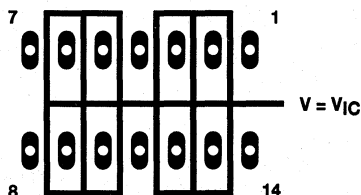
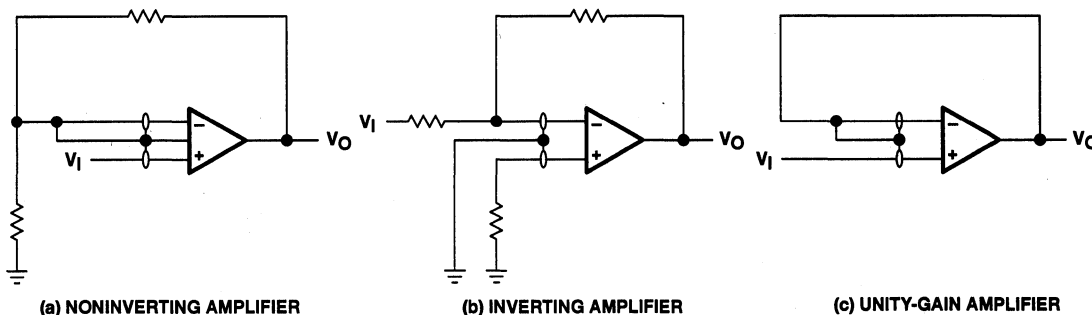

Figure 33. Isolation Metal Around Device Inputs
Figure 37. Guard-Ring Schemes
- Isolate the device from other potential leakage sources. Use a grounded shield around and between the device inputs (see Figure 33). Leakages that would otherwise flow to the inputs are shunted away.
Because of the extremely high input impedance and resulting low bias-current requirements, the TLV2334I is well suited for low-level signal processing; however, leakage currents on printed-circuit boards and sockets can easily exceed bias-current requirements and cause a degradation in device performance. It is good practice to include guard rings around inputs (similar to those of Figure 33 in the Parameter Measurement Information section). These guards should be driven from a low-impedance source at the same voltage level at the common-mode input (see Figure 37).